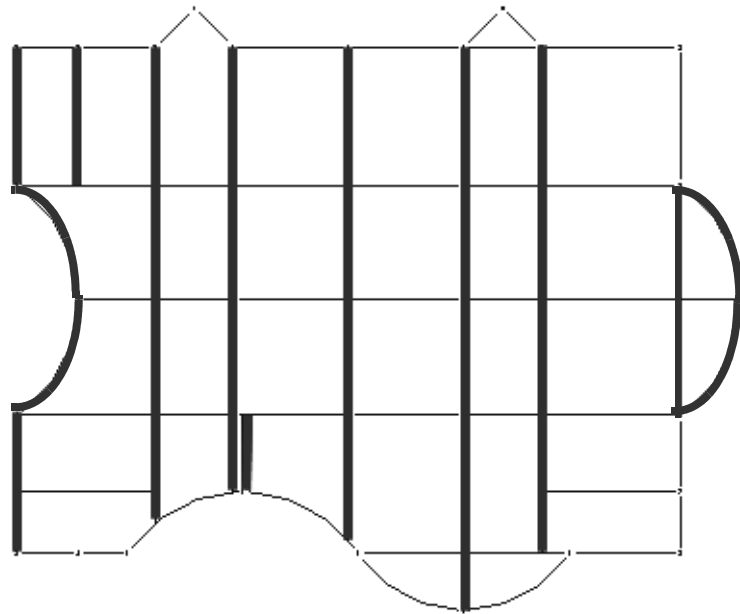

Figure 7-56
- For this level, you need to lower the beams of each bay. Select all of the beams running in the north-south direction for the joist bearing, including the arc beams, as shown in Figure 7-56.